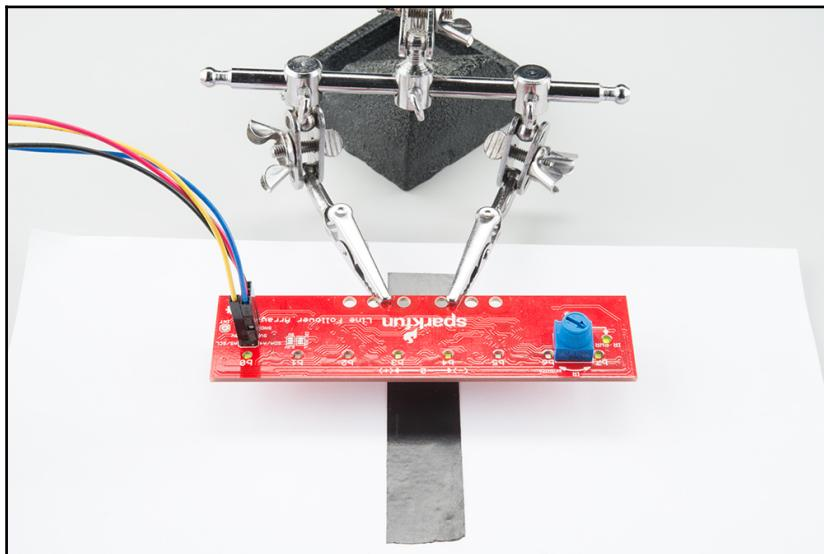

Figure 5.11: A sensor placed on a dark line. Only b3 and b4 IR sensors can detect the line. Image courtesy of SparkFun Electronics (<https://www.sparkfun.com>)
9. Inside the `loop()` function, read the sensor position on the dark line (*Figure 5.11*) with the following command: